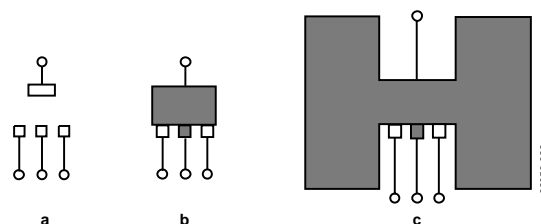

Figure 22. PCB Layouts
As shown in Figure 22, the amount of copper to which the ADP3338 is mounted affects thermal performance. When mounted to the minimal pads of 2 oz. copper, as shown in Figure 22 (a),  $\theta_{JA}$  is 126.6°C/W. Adding a small copper pad under the ADP3338, as shown in Figure 22 (b), reduces the  $\theta_{JA}$  to 102.9°C/W. Increasing the copper pad to one square inch, as shown in Figure 22 (c), reduces the  $\theta_{JA}$  even further to 52.8°C/W.
- Decrease thermal resistance by adding a copper pad under the ADP3338, as shown in Figure 22 (b).
- Use the adjacent area to the ADP3338 to add more copper around it. Connecting the copper area to the output of the ADP3338, as shown in Figure 22 (c), is best, but thermal performance will be improved even if it is connected to other signals.